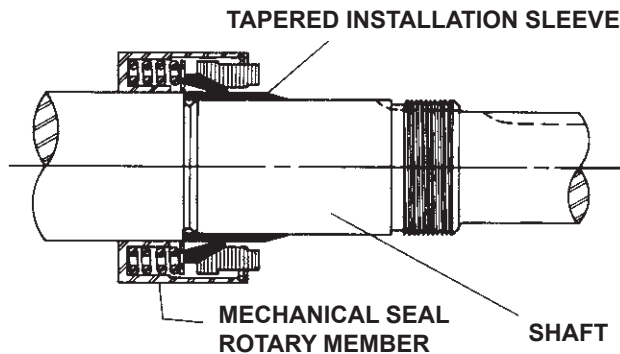

FIGURE 10
- Place tapered installation sleeve on the shaft. Coat tapered sleeve and inside of the rotary member with a generous quantity of light oil. Grease is not recommended. Start rotary member on shaft and over tapered sleeve. Refer to Figure 10.